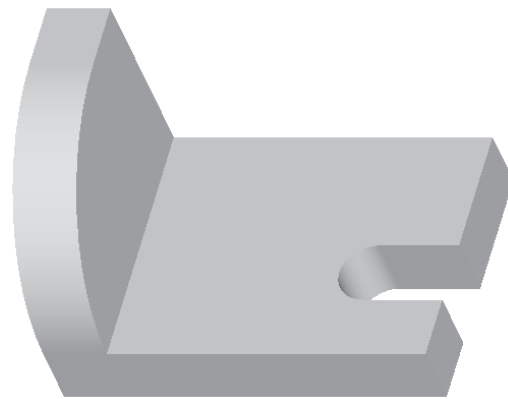

Figure 4-81 Model with the second extruded feature
6. Choose the **Build feature** button from the **Extrude** dashboard. The second feature is completed and is shown in Figure 4-81. You can use the middle mouse button to spin the model to view it from various directions.